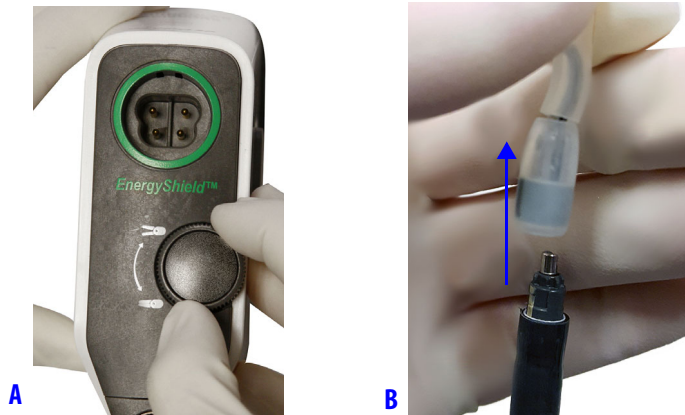

Figure 5.12 Rotate the Grip Release Dial (A), then remove the ball from the pin socket (B)
3. Rotate the Grip Release Dial on the instrument housing clockwise to extend the pin from the distal end of the instrument shaft, then remove the ball from the pin socket (Figure 5.12 A and B).